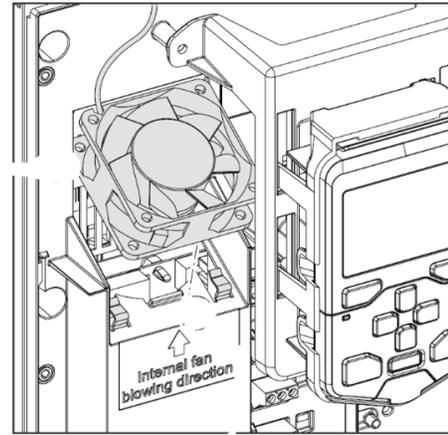

Fig. 44 — Auxiliary Fan Removal (Frame Sizes R6 up to R8)
5. Pull off the fan (see Fig. 44).